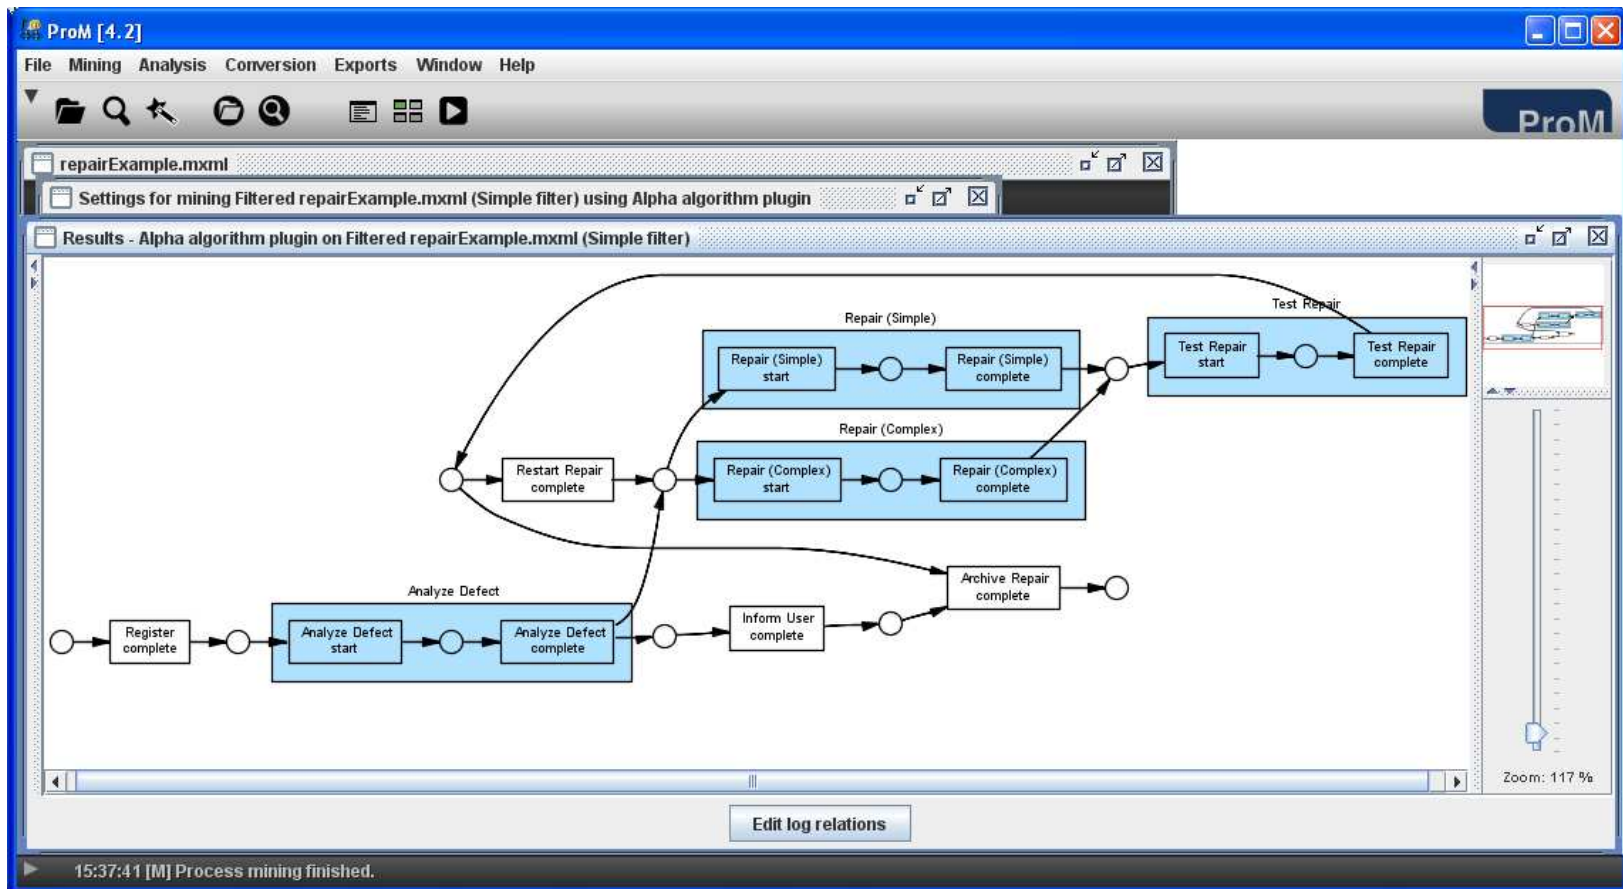

Figure 3.2: Screenshot of the mined model for the log of the running example.
4. Click the button *start mining*. The resulting mined model should look like the one in Figure 3.2. Note that the *Alpha algorithm plugin* uses Petri nets² as its notation to represent process models. From this mined model, you can observe that:
From the process description (cf. Section 1.3) and from the mined model in Figure 3.2, we know that telephones which were not repaired are again sent to the Repair Department. So, we can have a look on the *handover of work* for the task performed by the people in this department. In other words, we can have a look on the handover of work for the tasks *Repair (Simple)* and *Repair (Complex)*. One possible way to do so is to perform the following steps: